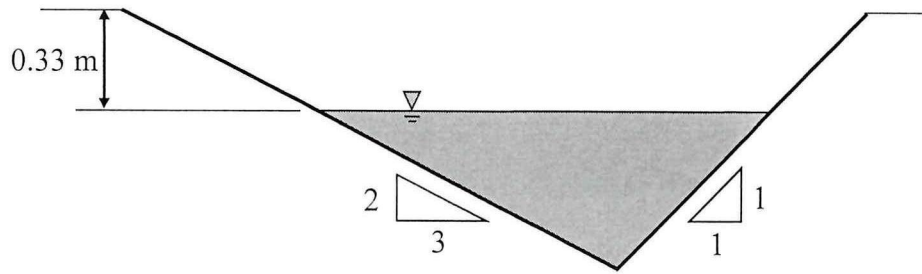

FIGURE Q1(c)
- (c) A channel shown in **FIGURE Q1(c)** carries flow at a rate of 0.85 m³/s on longitudinal slope 0.003 and Chezy coefficient 55.7. Calculate the depth of uniform flow. (5 marks)
- (b) A trapezoidal channel with 3 m bottom width and 3(H) : 2(V) side slope carries a discharge of 22000 L/s on longitudinal slope of 0.002 and roughness $n = 0.013$. Calculate the critical depth. (5 marks)